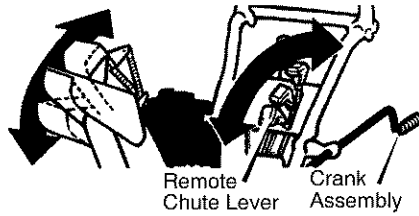

Figure 16
1. Turn the **crank assembly** to set the direction of the snow throwing. See Figure 16.